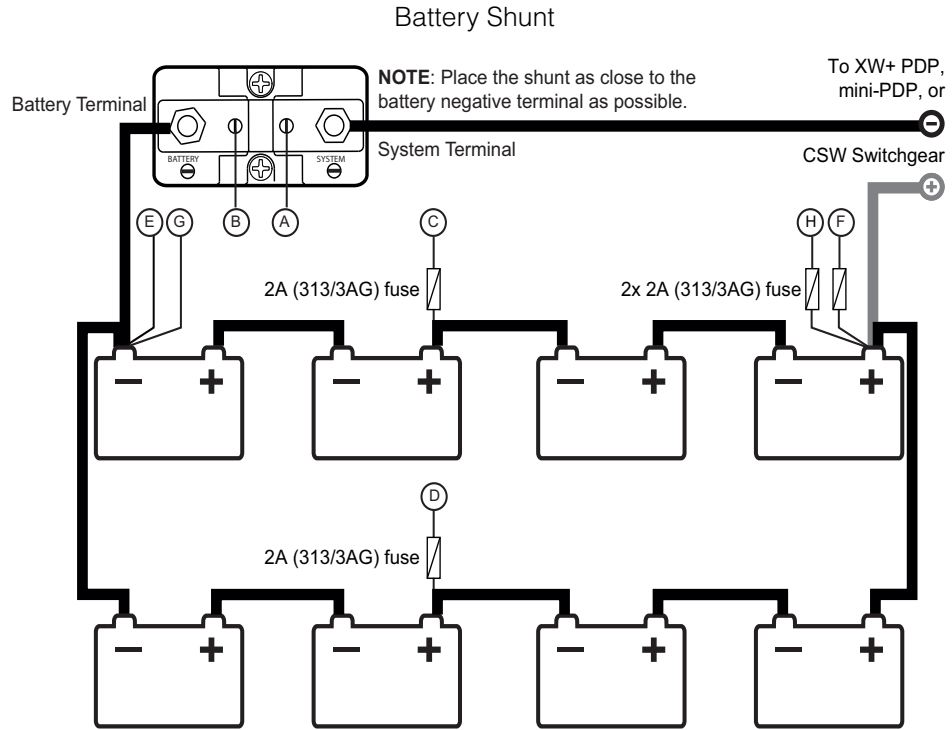

Figure 2-10 Wiring the battery bank
2. Connect the free end of the negative cable to the shunt terminal labeled “SYSTEM.” See Figure 2-10, “Wiring the battery bank” on page 2–12. Ensure all connections are tight.